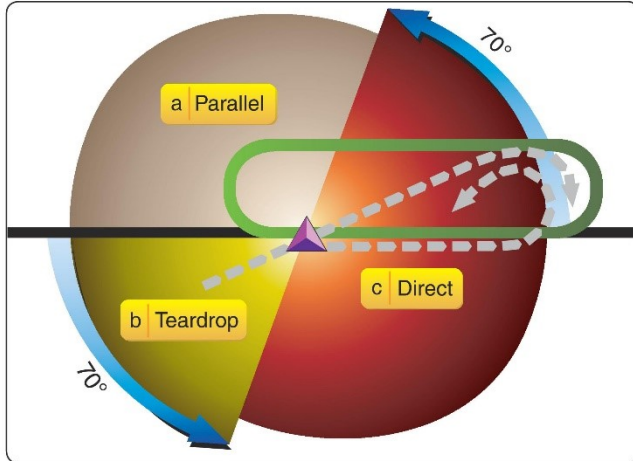
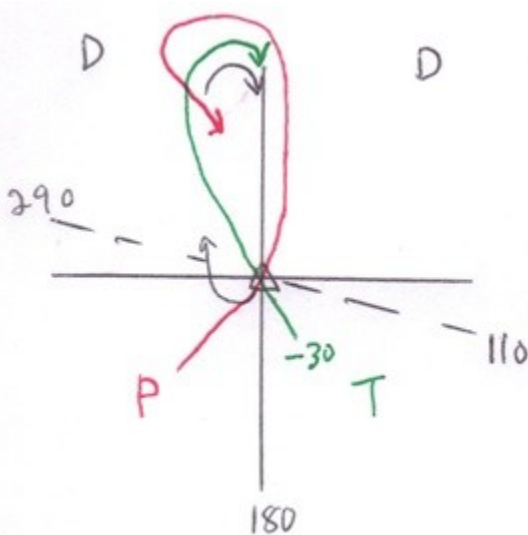

Figure 4 How to determine which entry type
Figure 5 Standard Holding Pattern
Figures 4 and 5 will help you determine which entry you would choose on a right turn, standard holding pattern. Figure 4 has you holding east (090) and Figure 5 has you holding north (000/360).
Let's look at Figure 5 which shows how you can quickly figure out using a standard hold on due north (000/360). Once this makes sense it becomes simple math.